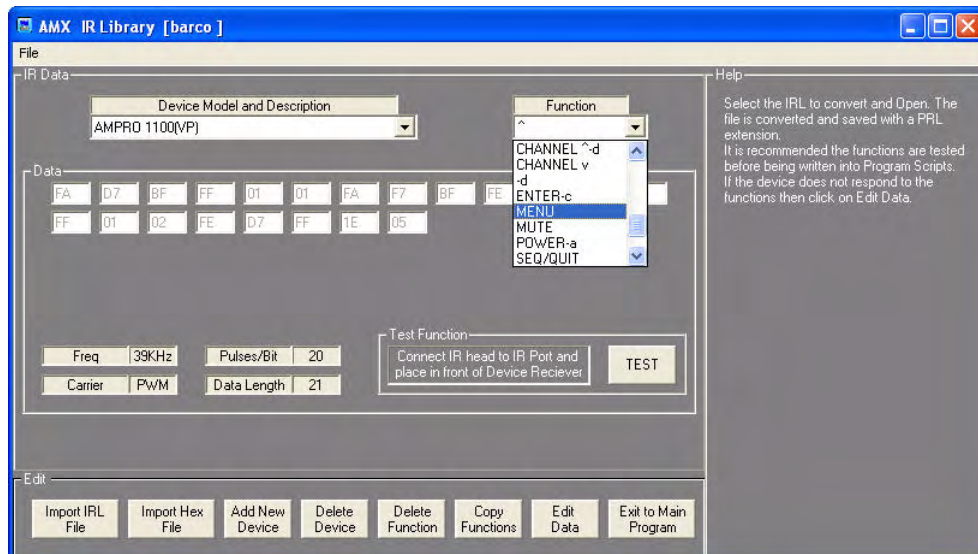

FIG. 43 AMX IR Library dialog - showing a converted IRL file
3. The selected IRL file is converted to the PLR format (FIG. 43).